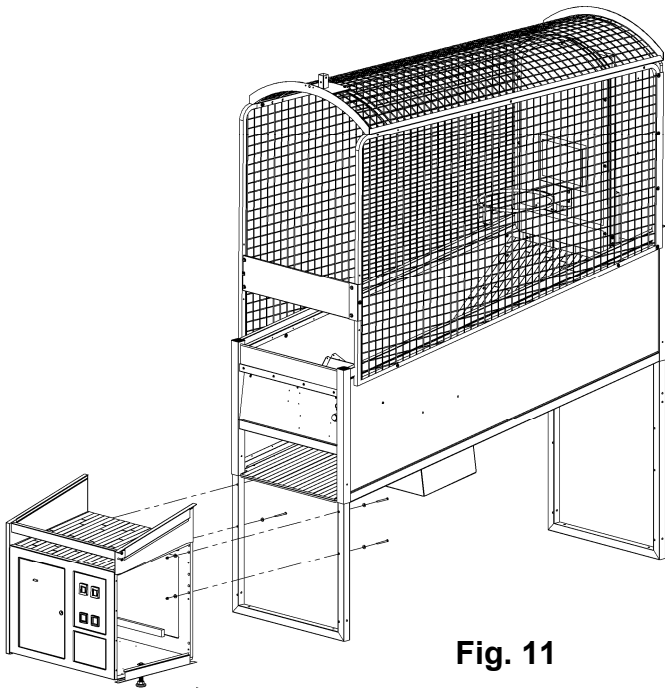

Fig. 11
Remove the rear door from the Front Cabinet to allow easier access to the mounting hardware. Move the Front Cabinet to the front of the Rear Cabinet and bolt it to the frame by installing the mounting bolts through the back of the front legs and into the front cabinet's mounting holes. Secure with (4) 1/4-20 X 3" security head Allen bolts and 4 flat black washers. (See Fig. 11)